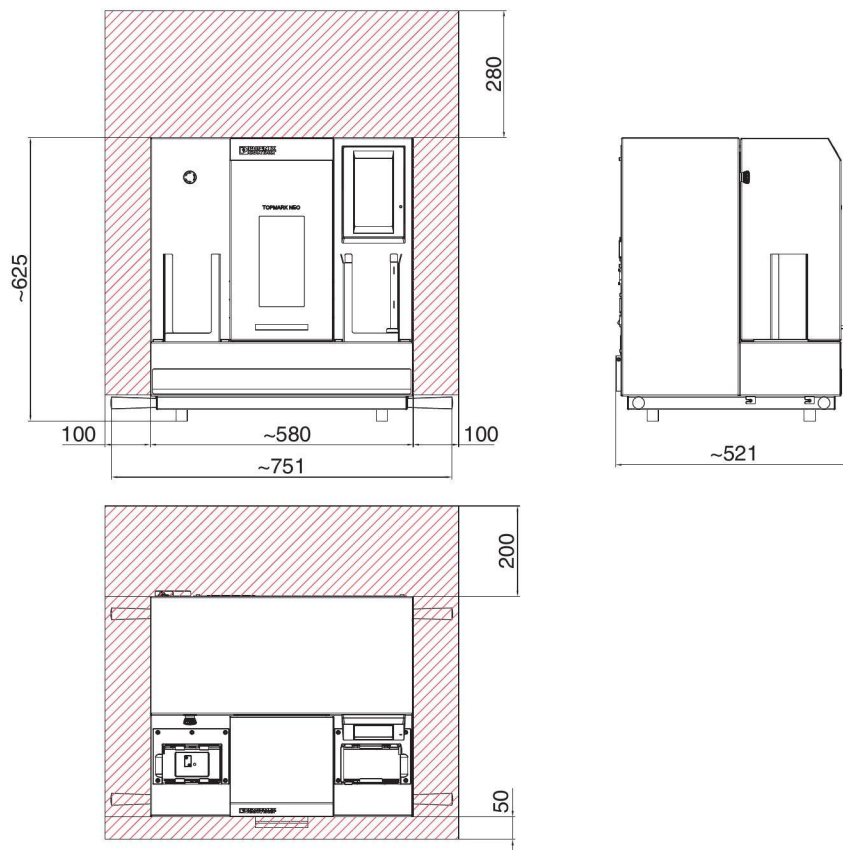

Figure 2-2 Clearances and dimensions of the TOPMARK NEO
- Set up the device so that the shaded clearance areas are as specified in Figure 2-2.